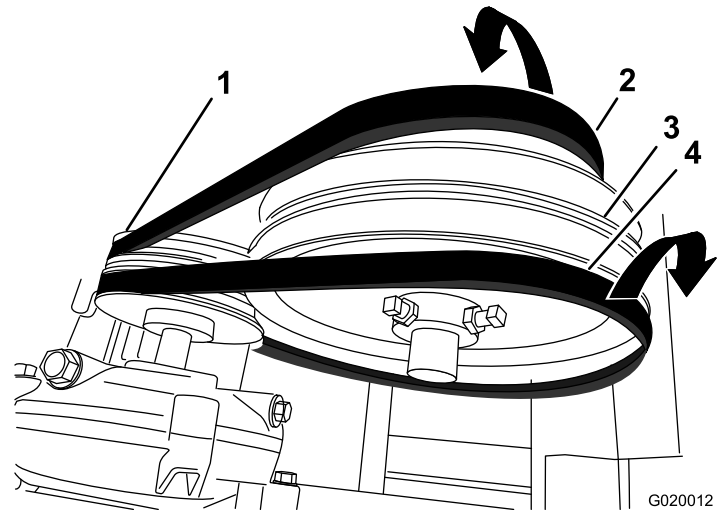

Figure 67
4. Slip the forward belt forward and off the idler pulley (Figure 67).
5. Slip the rear belt rearward and off the idler pulley (Figure 67).